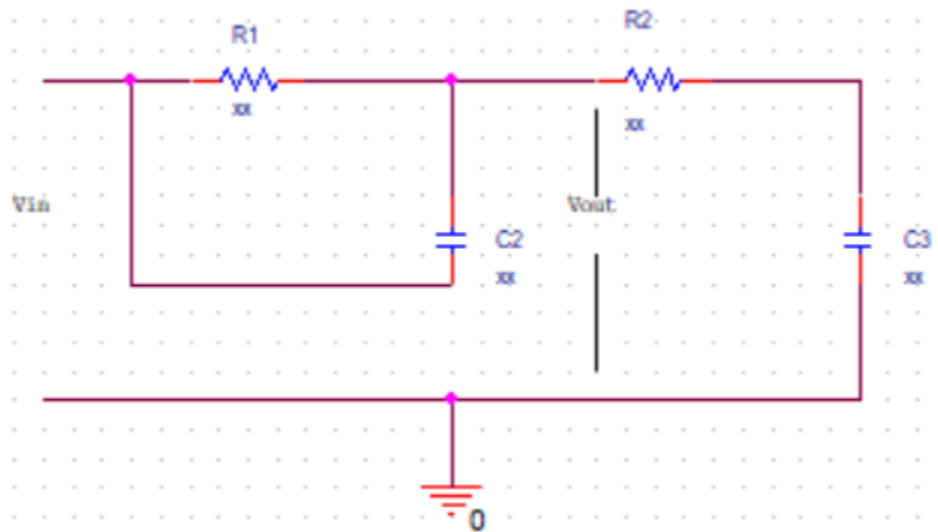

Figure 5: Circuit Diagram of Passive Notch Filter
- C. Simulate the circuit in Figure 5 on PSpice using above calculated values. (2.5)